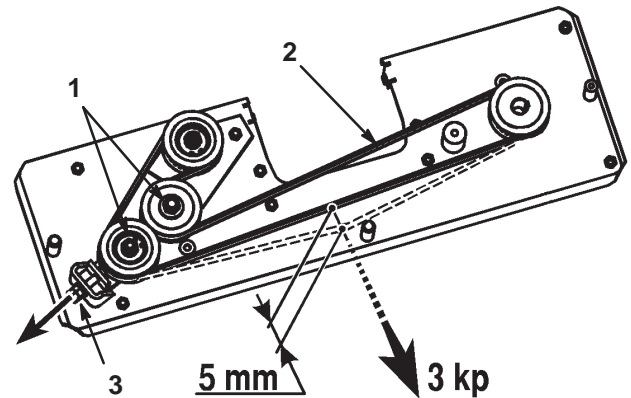

Figure 43
4. Loosen the two hex nuts on the idler pulley (Fig. 43).
5. Adjust the M10 nut until the belt flexes 5 mm with 3 kp of force (Fig. 43).